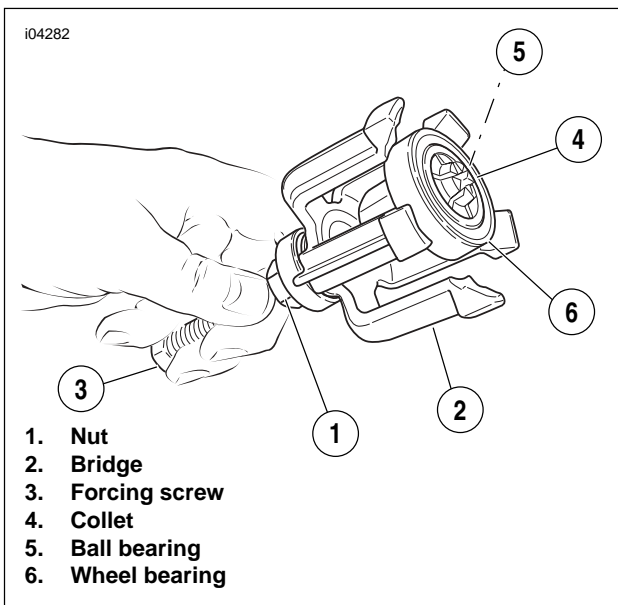

Figure 2-11. Removing Bearing from Puller
11. See Figure 2-11. Remove the ball bearing (5) and wheel bearing (6) from the collet (4).